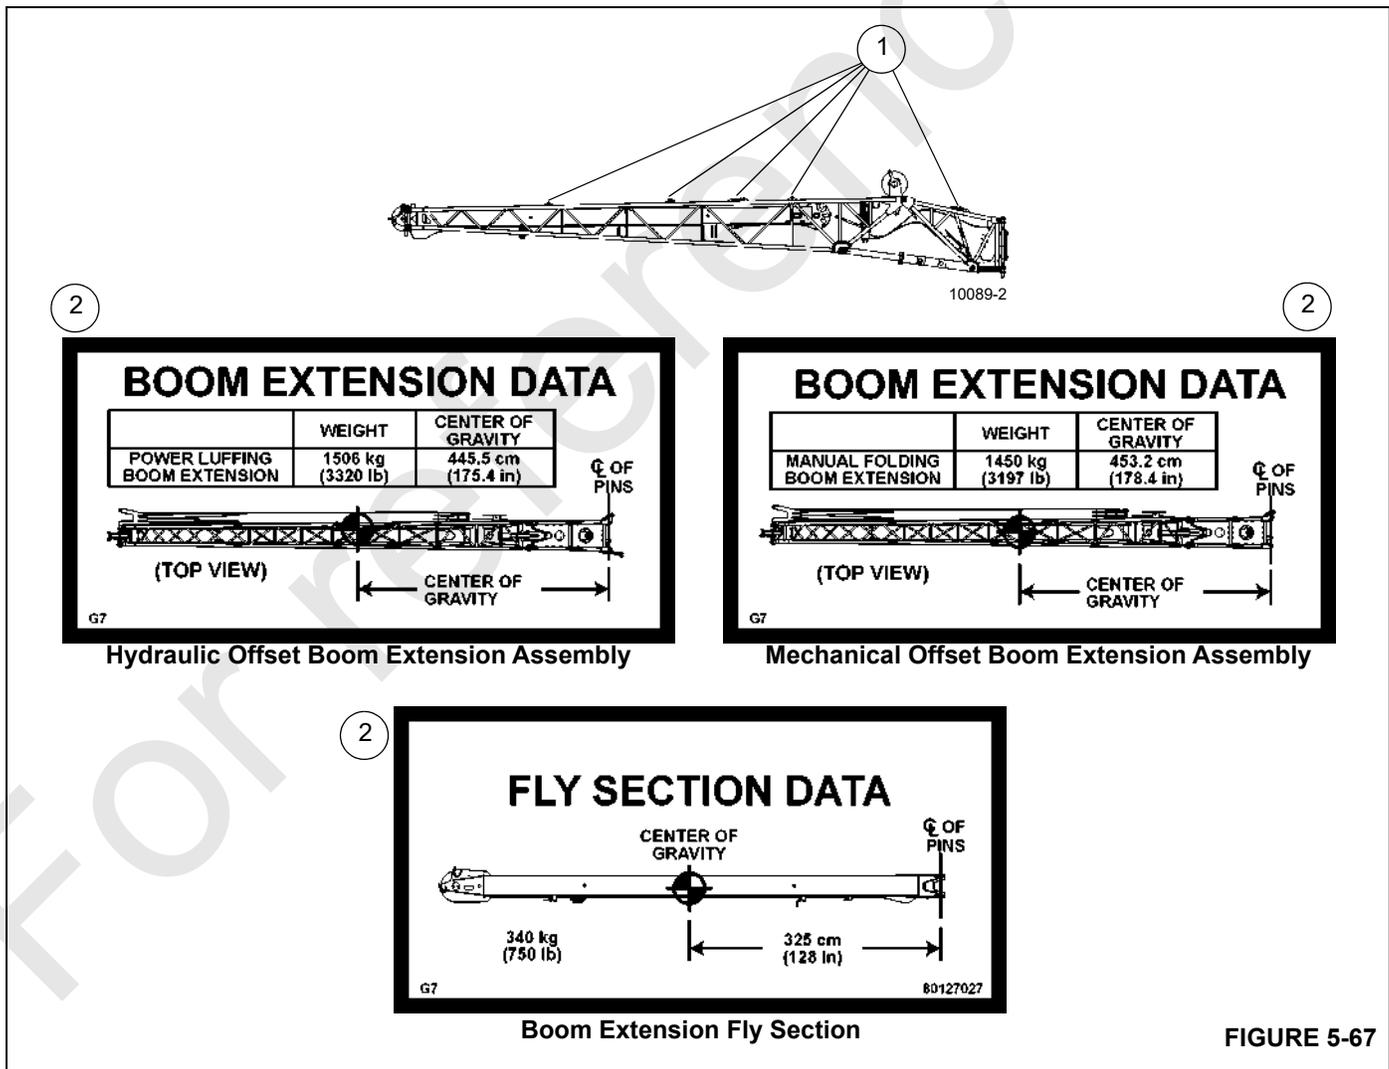

FIGURE 5-67
The boom extension base section features five attaching points on each side (10 total) (1, Figure 5-67). The Transportation and Lifting decal (2) shows the center of gravity information for the boom extension assembly and the boom extension weight. Use the Transportation and Lifting decal to determine which attaching points to use.